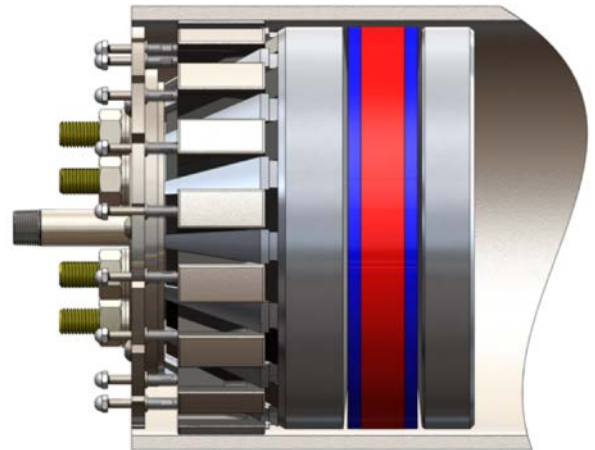

Figure 5: GripSafe ST ORB Auto-Locking Minimum Insertion Depth in a Sectioned Pipe
6.4 Insert the plug until the top of the **Spring Plate Hub(18)** is at least flush with the end of the pipe. See Figure 5.